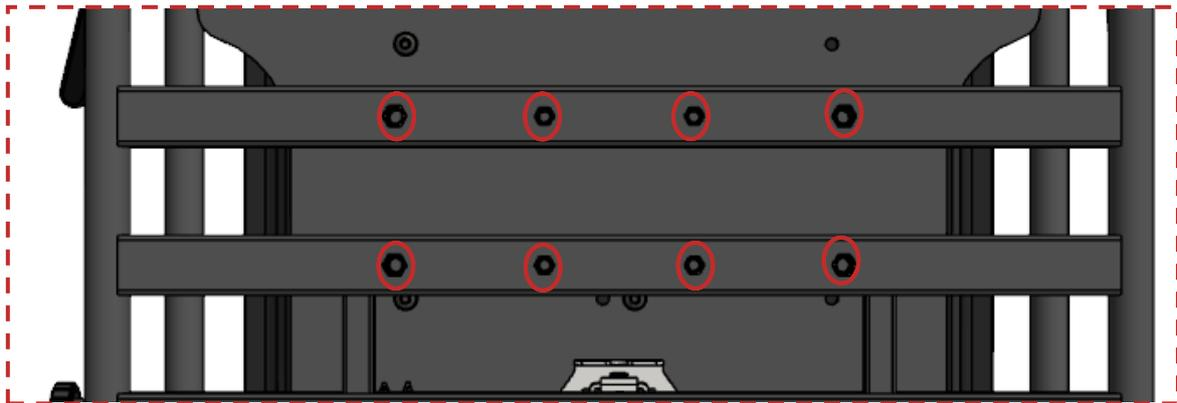

Figure 24 Inspection of mounting threads at bottom side
- Before and after each installation, the **M8 and M10 mounting holes** (see red marking in Figure 24) must be carefully inspected, as they may get damaged during the installation of the hanging accessory.